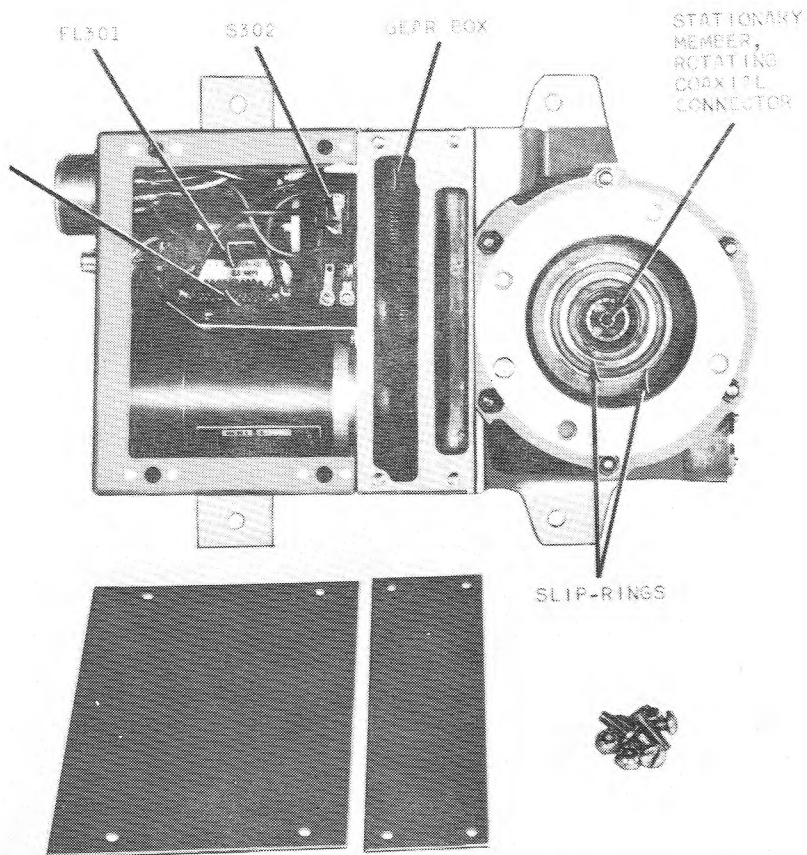

Figure 5-13. Antenna Drive TG-23/ALA-6, Antenna Coupler CU-398/ALA-6 in Place
- Step 2. Check the slip-rings (figure 5-13) for corrosion, film or damage.
- Step 1. Clean the slip-rings of Antenna Coupler CU-398/ALA-6, using solvent MIL-S-16067, type 140F, applied with a soft brush or soft, clean cloth. See figure 5-13. Remove all excess solvent.
- Step 3. Clean the rotating coaxial connectors of Antenna Assembly AS-654/ALA-6, AS-655/ALA-6, AS-656/ALA-6 and Antenna Coupler CU-398/ALA-6 with the solvent and method described in step 1, above. See figures 5-13, 5-14 and 6-7.